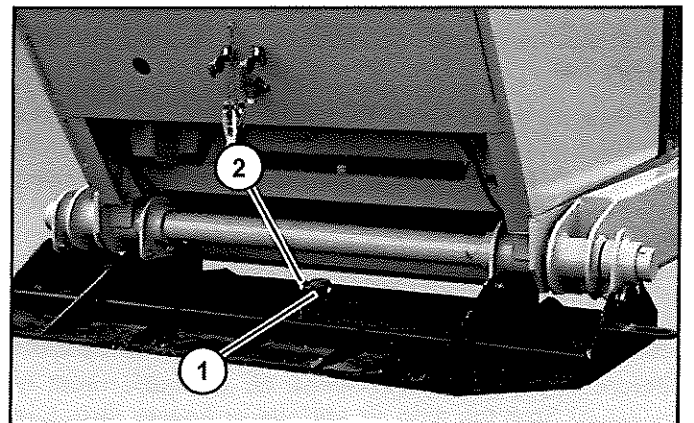

Figure 98
13. Remove the keeper bolt to free the pivot plate (Item 1) (Figure 98) from the concrete pad.